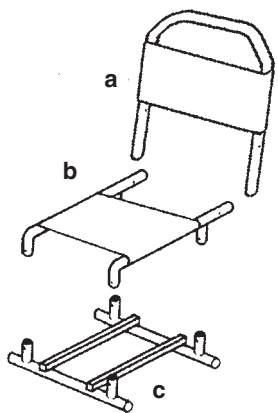

Fig. 1a
2. Assemble Padded Seat Back (see figure 1a) by sliding Padded Seat Back over the Frame Member.
6. Assemble Padded Seat Bottom to Seat Support Frame Member (see figure 1a and 2) using (4) Short Snap Pins.
7. Hold the Padded Seat Back vertically and attach to Padded Seat Bottom using (2) Long Snap Pins (see figures 1a and 2). After assembly, Seat Back can pivot forward to fold seat down and pivot back to stop in a sitting position.